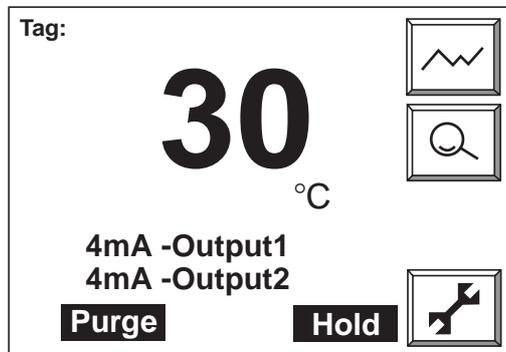

Figure 8.20 Display during Purging
- (1) Press the Setup key in the basic panel display to display the Execution/Setup display.
- (2) Choose Setup to display the “Commissioning” (Setup) display.
- (3) Choose Others and then Passwords to display the Passwords display shown in Figure 8.20.
- (4) Choose “Calibration, Blow back and Maintenance” to set passwords for calibration, blow back and maintenance respectively.
- (5) The “text entry” display then appears. Enter up to eight alphanumeric characters as the password.
- (6) In the same manner, follow steps 1 through 5 above to set a password for setup.
- (7) Record passwords to manage them appropriately.